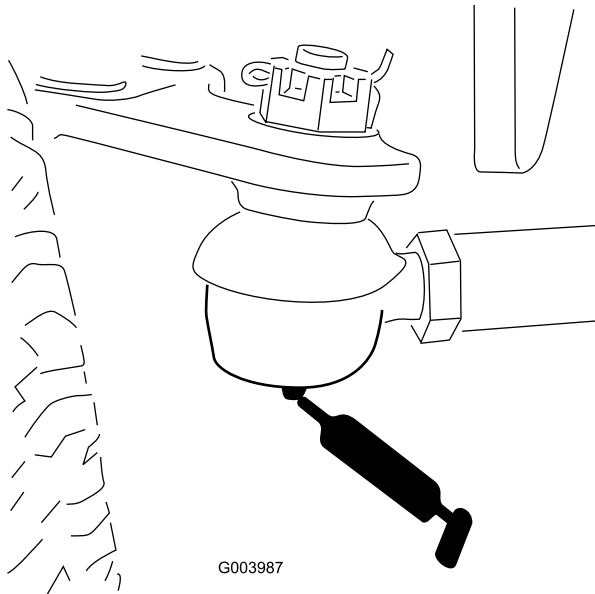

Figure 56
- Rear axle tie rod (2) (Figure 56)